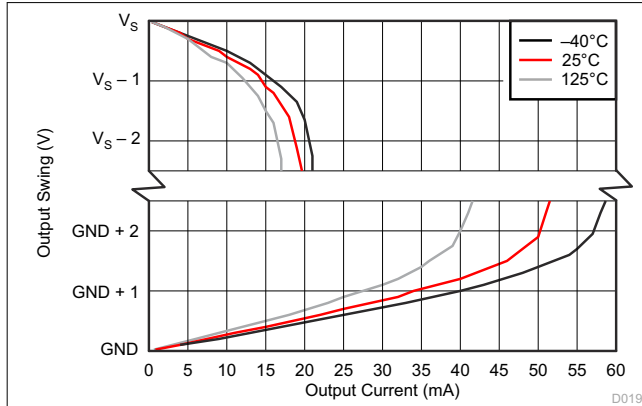

Figure 7-19. Output Voltage Swing vs. Output Current
(3) See Figure 7-19.
(4) Swing specifications are tested with an overdriven input condition.